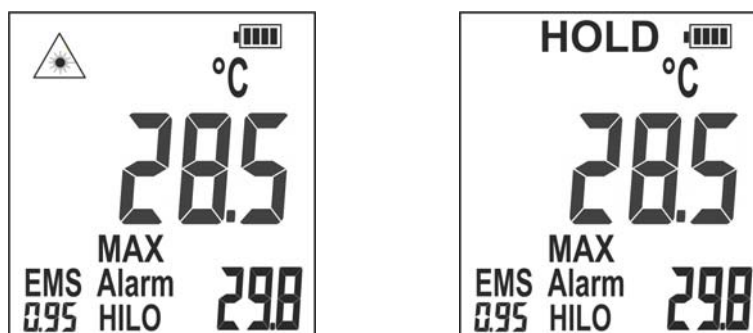

Fig. 18: Display of measured values
- Release the Trigger key **T** to stop measuring and freeze the last read value. The symbol "" disappears and the message "HOLD" is shown on the display (see Fig. 18).